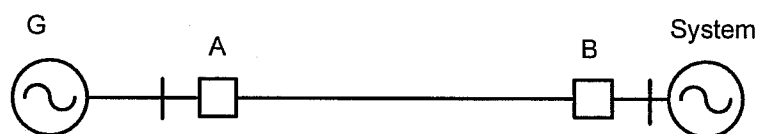

Figure Q1.
- Q1** A 1200 MVA, 50 Hz synchronous generator delivers power of 0.45 p.u through a transmission line to a system which can be considered as an infinite bus as shown in figure Q1. The reactance of the transmission line is 0.4 p.u. and that of the generator is 1.12 p.u. Voltage at the infinite bus is 1.0 p.u. and emf of the generator is 1.8 p.u. Circuit breakers A and B at the ends of the transmission line were opened at time $t=0$ and reclosed after certain time T . Inertia constant (M) of the machine is 34.39 MJ/mech.rad